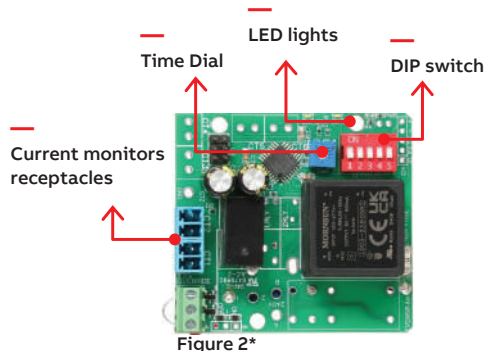

Figure 2\*
- 2- Insert the two current monitoring device connectors into the corresponding receptacles on the control board. See Figure 2, p.7.